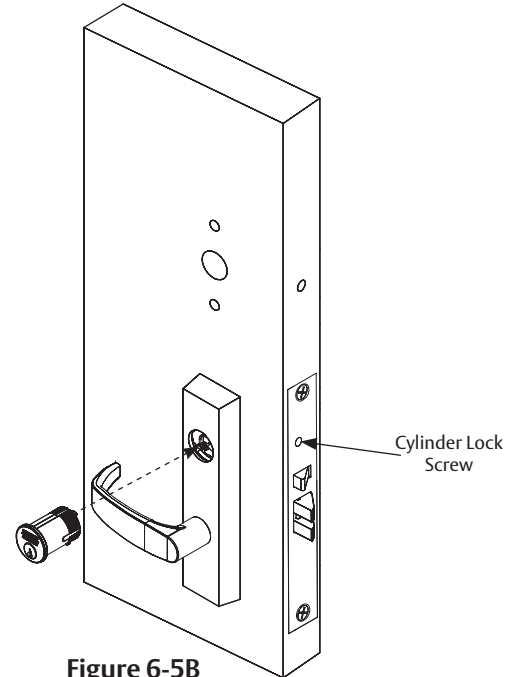

Figure 6-5B
3. Verify that key retracts latchbolt. (Figure 6-5B)